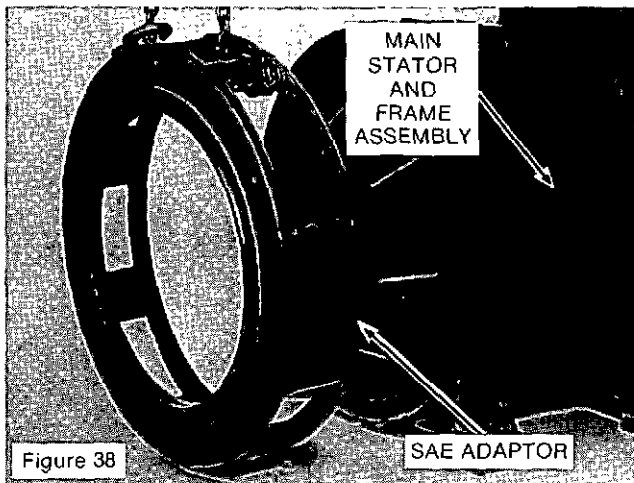

Figure 38
- b. For single bearing generators, pilot the SAE adaptor to the fan and secure to the main stator and frame assembly with capscrews torqued per Figure 49. (See Figure 38.) It may be necessary to raise the rotor assembly slightly to allow the mounting of the SAE adaptor.